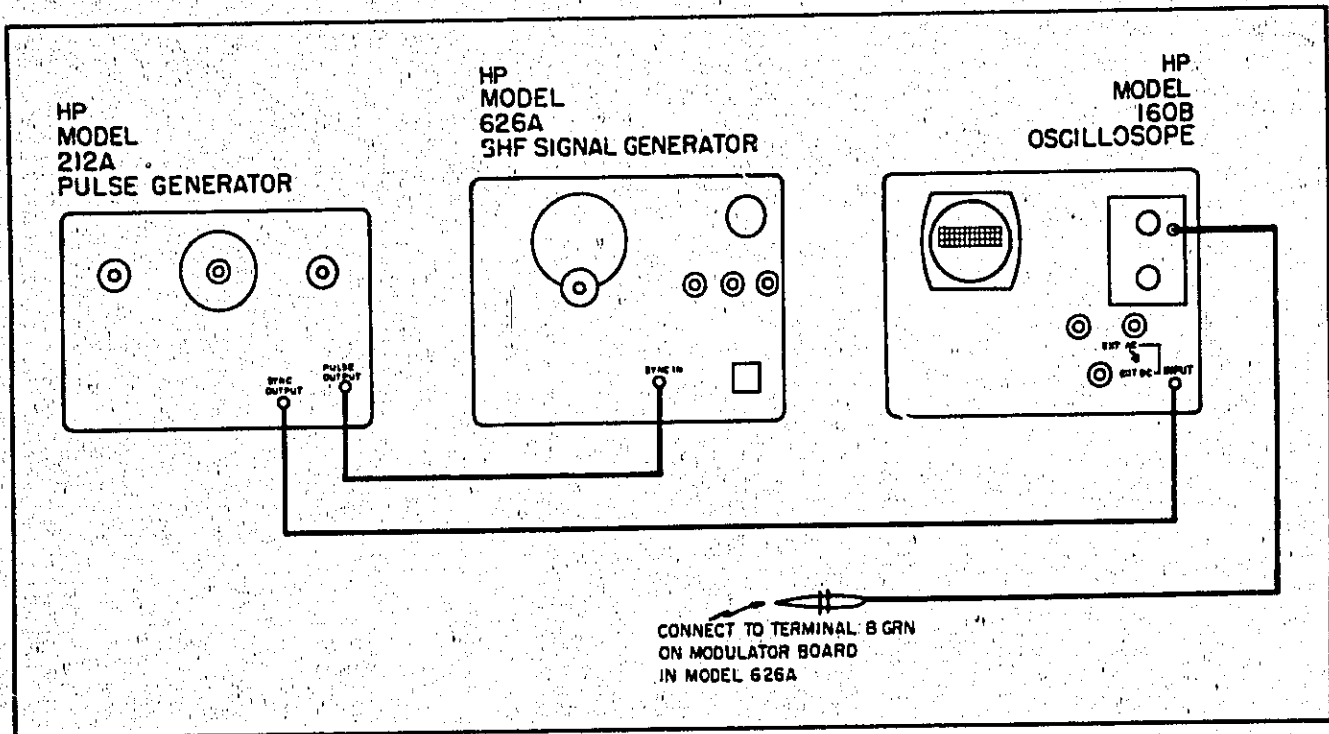

Figure 5-8. Test Setup for Schmitt Trigger Level Adjustment
- a. Connect test setup as shown in Figure 5-8. Oscilloscope vertical input is to be connected to terminal B GRN on modulator board.